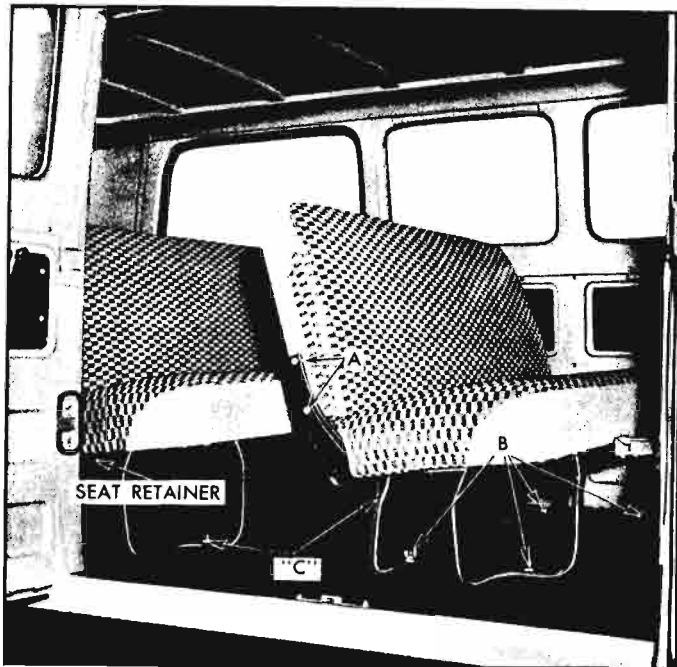

Fig. 10-102a—Rear and Center Seat Installation
ment seat, which is mounted at the factory in the third seat position facing forward. In this position, the rear leg assembly is folded under the seat with the rear portion of the seat resting on the first rise of the rear underbody. Tangs at the rear of the seat frame fit into loop-type right and left hand brackets, securing the rear of the seat to the underbody. The right and left hand front leg assemblies are secured to the underbody with bolts which fit into slotted anchor plates. Wing-type nuts permit easy and rapid removal and installation of the seat ("B" and "C", fig. 10-102a).
1. Remove wing-type nuts ("C", fig. 10-102a) and remove rear seat assembly.
2. Remove wing-type nuts ("B", fig. 10-102a) and remove center seat.
4. Install center seat in position with bolts, washers and wing nuts ("B", fig. 10-102a).
1. Remove four retaining screws ("A", fig. 10-102a), two at each end of seat back brace.